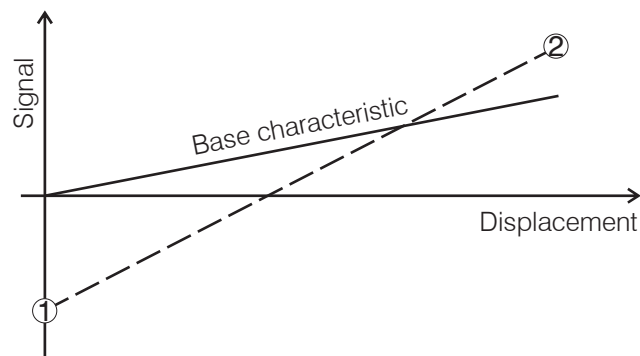

Fig. 30 Moving the characteristic
The base characteristic, see Fig. 30, is defined by the zero point and the slope. The measurements can be scaled as required. To do this, specify a starting value “Startp. MR“ and an end value “EndMRRange“. The characteristic is then defined by the points “Startp. MR“ (1) and “EndMRRange“ (2).